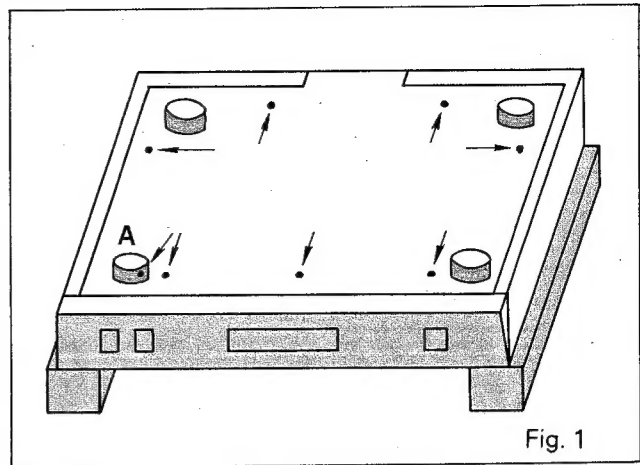

Fig. 1
- (1) Remove the dust cover.
- (2) Remove the turntable platter.
- (3) Fix the tone arm in place with the lock-lever of the arm rest.
- (4) Place the set on a suitable bench with the bottom base upward. (Fig. 1)
- (1) Remove with a Phillips-head screwdriver the eight screws which hold the bottom base (Fig. 1).
NOTE: One of the eight screws is placed behind the audio-insulated leg A as shown in Fig. 1.